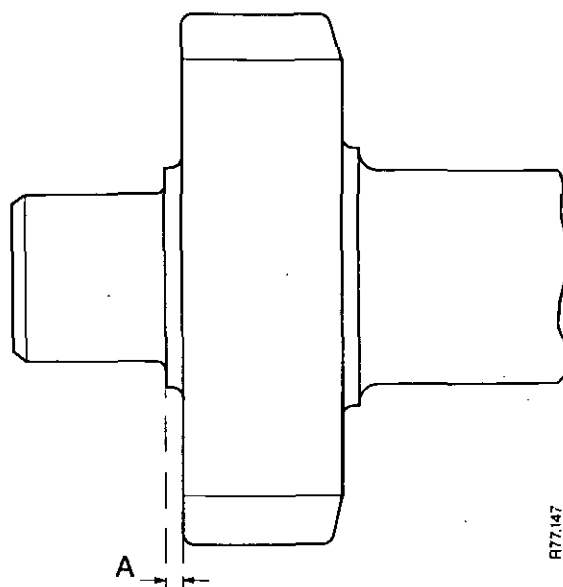

FIGURE 62. FRONT END OF LAYSHAFT
1. Measure the front shoulder of the layshaft as shown in Figure 62.
2. Remove the bearing cup from the front or rear end plate, see Figure 62.